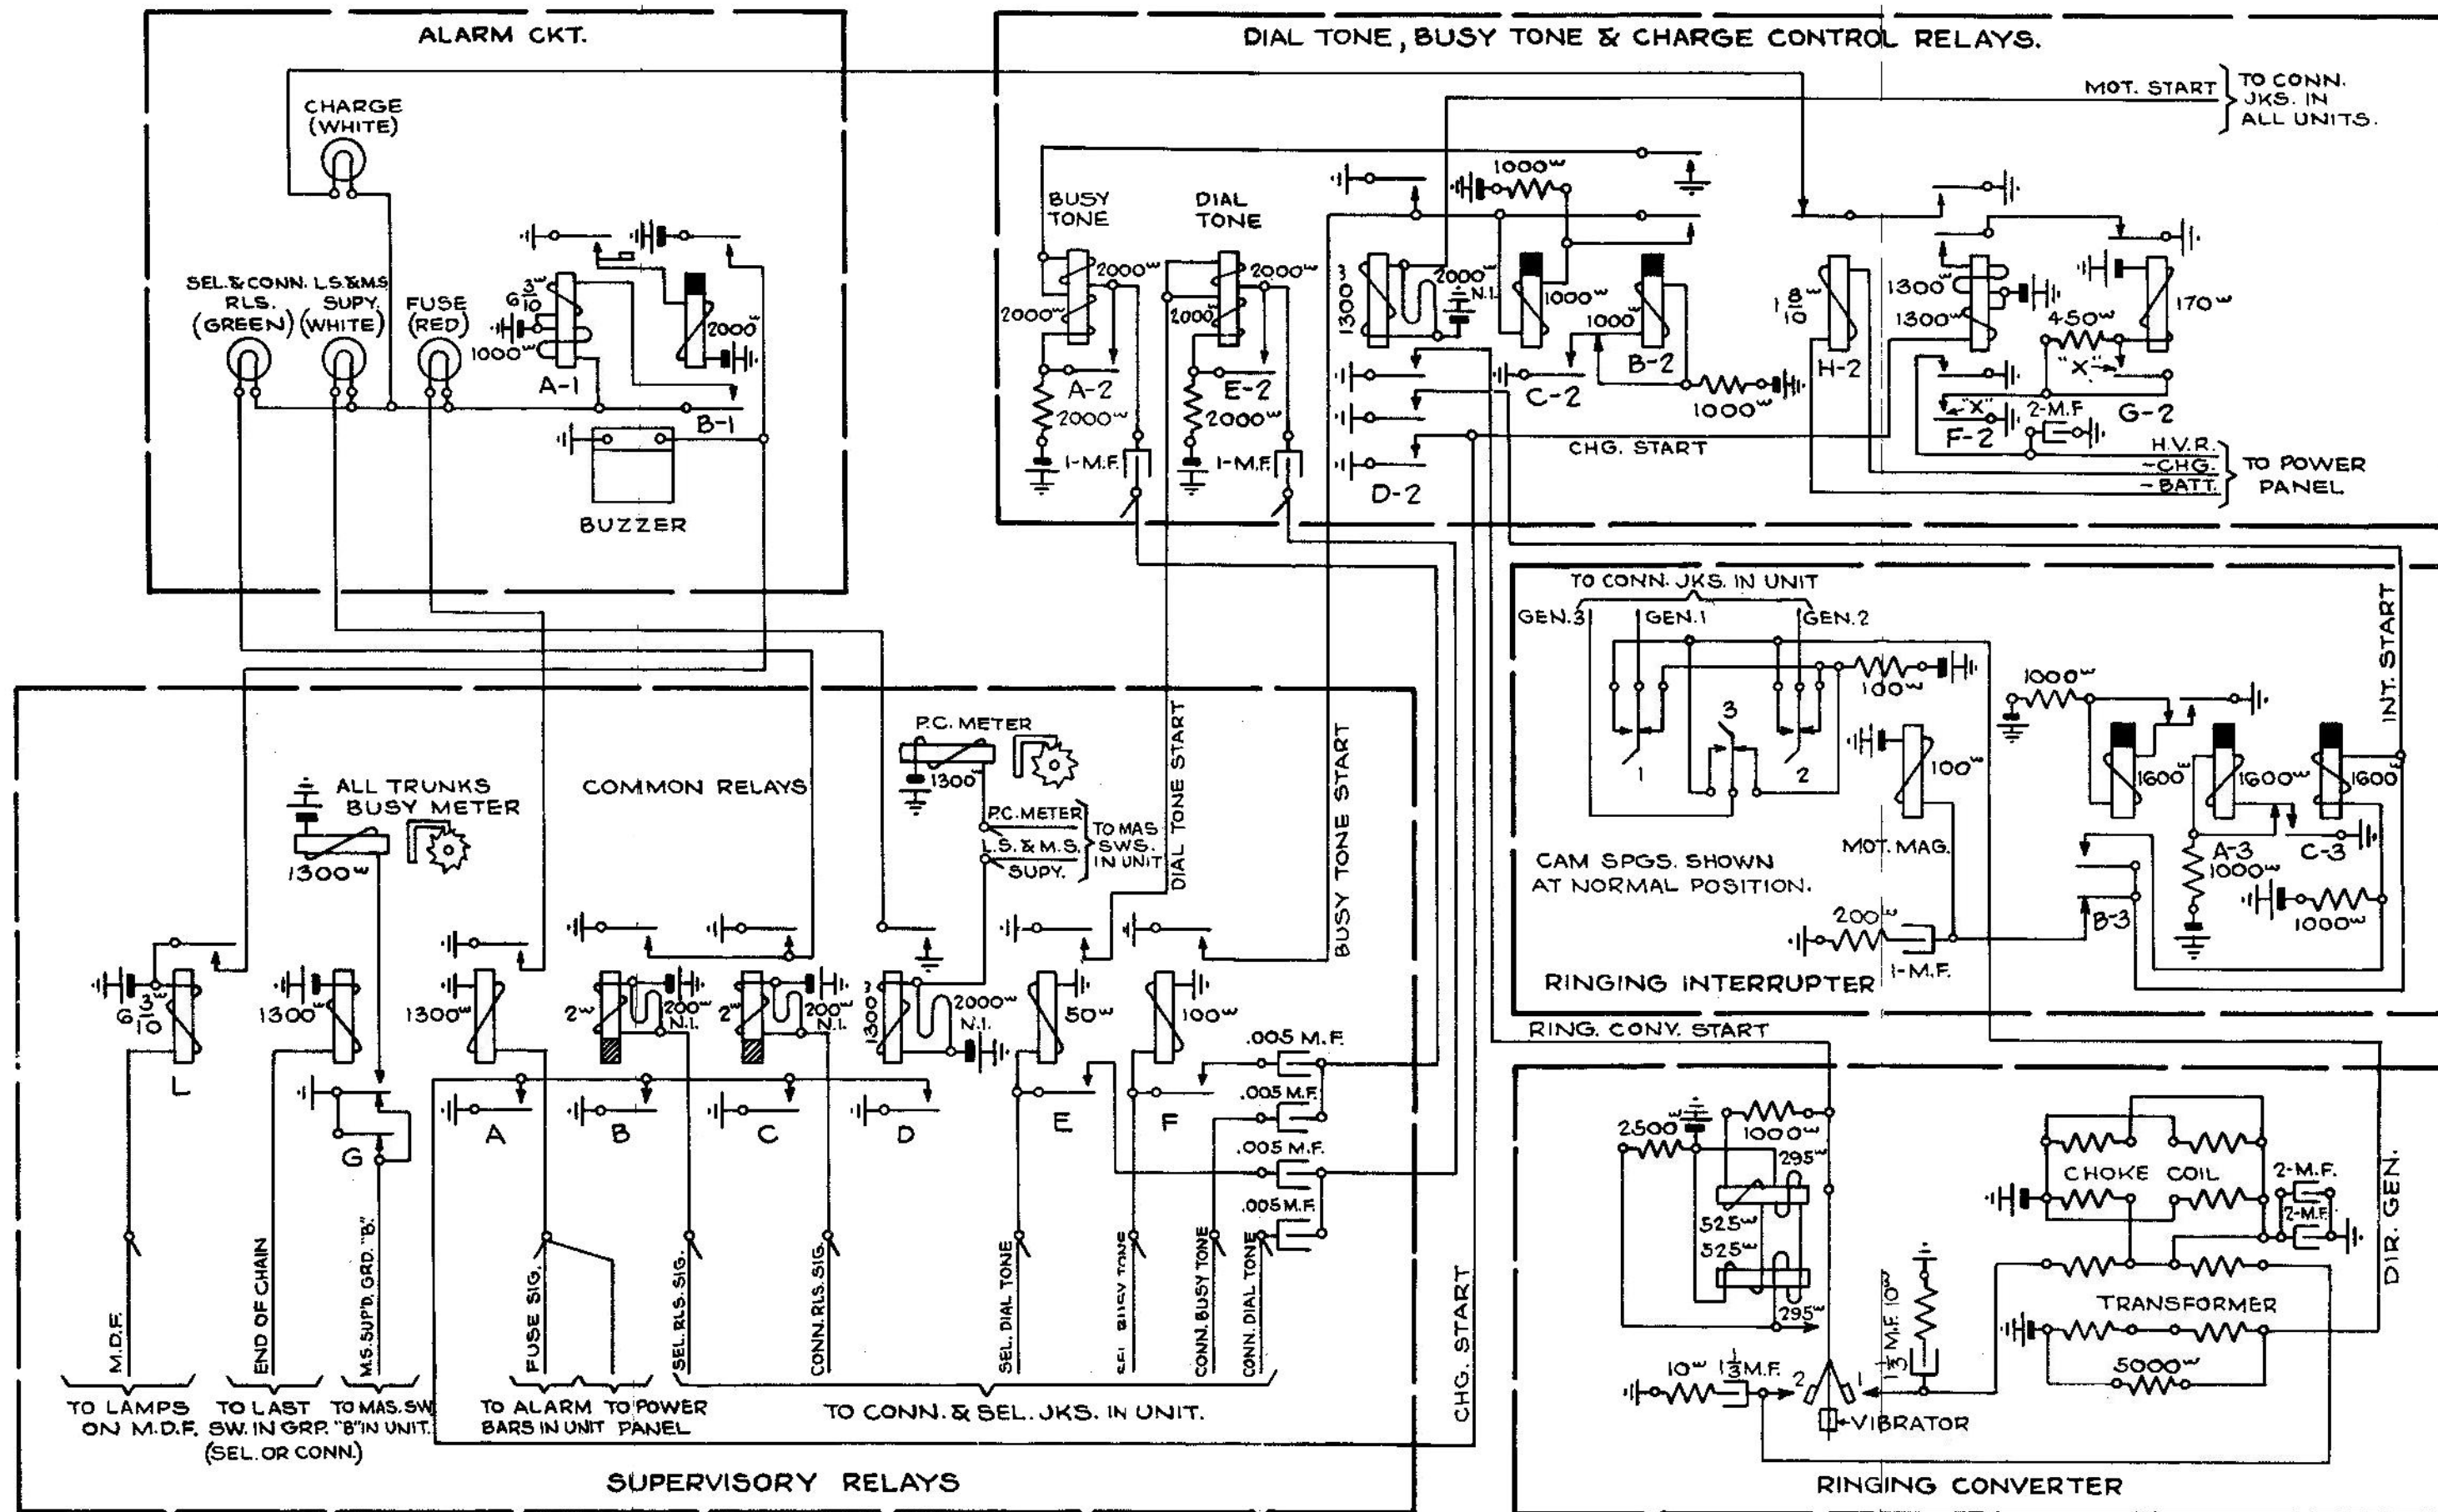

FIG. 35. PLUNGER LINESWITCH P-A-X SUPERVISORY AND OTHER CIRCUITS
The supervisory relays, Fig. 35, are shown for a lineswitch, selector, and connector system. For
8.273 Busy Tone Generation (Fig. 35)
The ringing current is generated by a vibrator ringing converter and interrupted by either a rotary-cam-type or a relay-type interrupter. The operation of the ringing converter shown in Fig. 35 is as follows:
A ringing interrupter is used here for two purposes: one, to furnish the ringing cycle of ringing and silent periods, and two, to connect the generator to only a portion of the load at a time, so as to require a smaller converter than would otherwise be needed. The ringing interrupter, shown in Fig. 35, consists of three slow-to-operate relays, three sets of springs, and a set of rotary cams driven by a motor magnet.